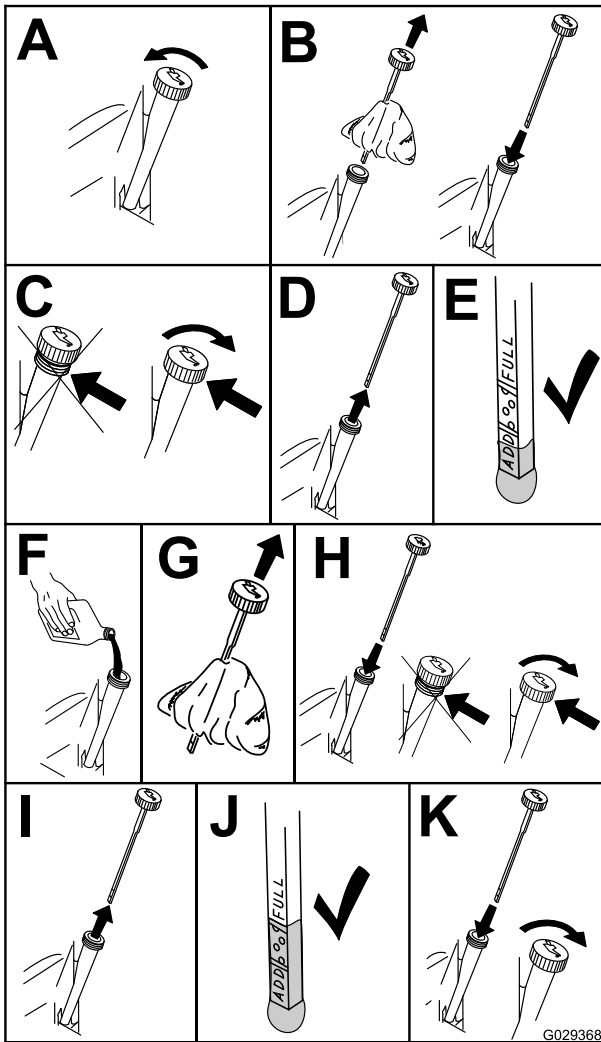

Figure 38
- To keep dirt, grass clippings, etc., out of the engine, clean the area around the oil-fill cap and dipstick before removing it (Figure 38).